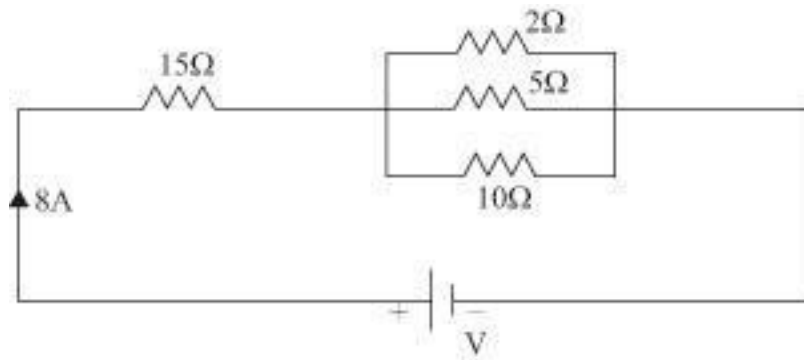

Figure 1.16
1. In the Circuit shown in figure 1.16, find the Current in all the resist Also calculate the supply voltage.